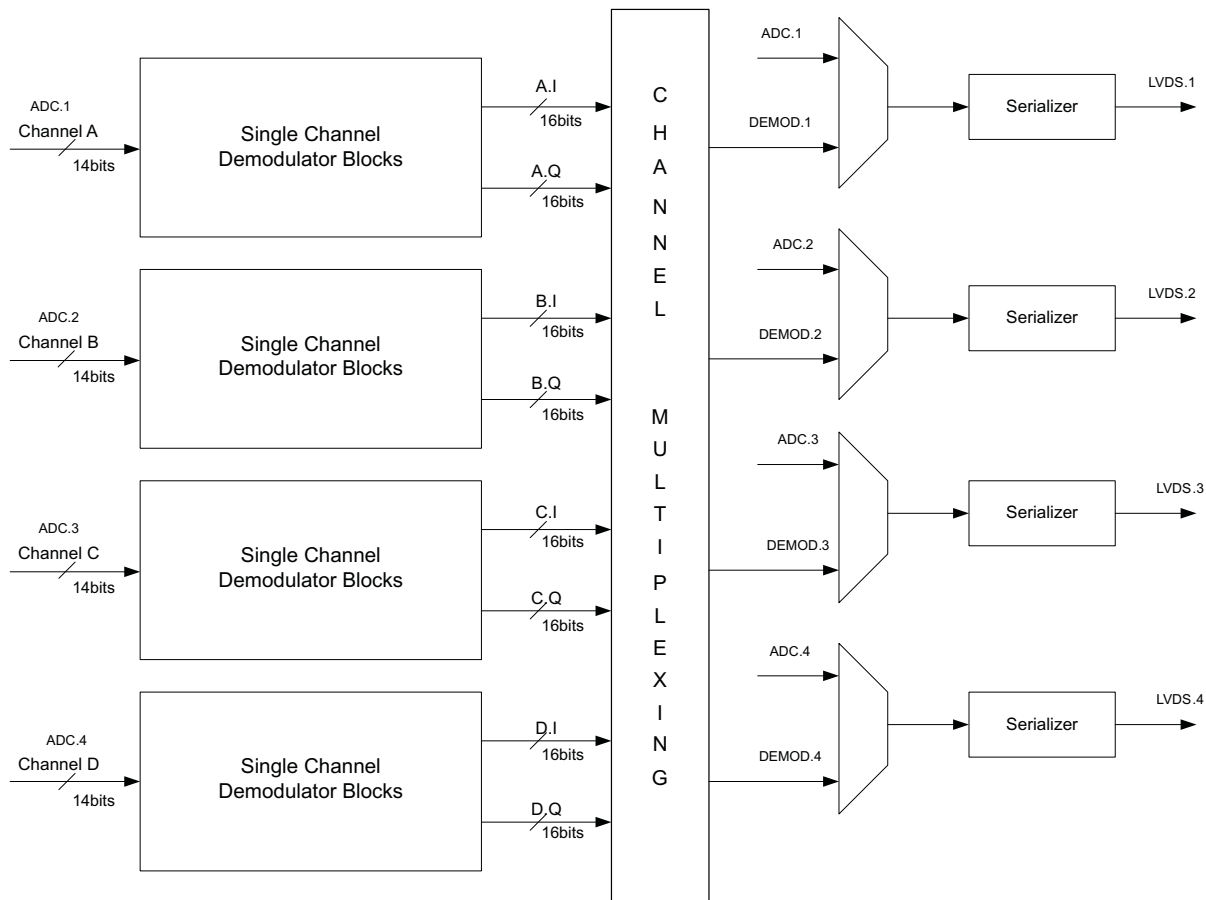

Figure 91. Channel Multiplexing
3. Decimator Block has two functions, Decimation Filter and Down Sampler. Decimation Filter is a variable coefficient symmetric FIR filter and its coefficients can be given using Coefficient RAM. Number of taps of FIR filter is $16 \times$ decimation factor (M). For decimation factor of M , $8M$ coefficients have to be stored in Coefficient Bank. Each coefficient is 14 bit wide. Down-sampler gives out 1 sample followed by $M-1$ samples zeros.
4. In Figure 91, channel multiplexing is implemented for flexible data routing. :